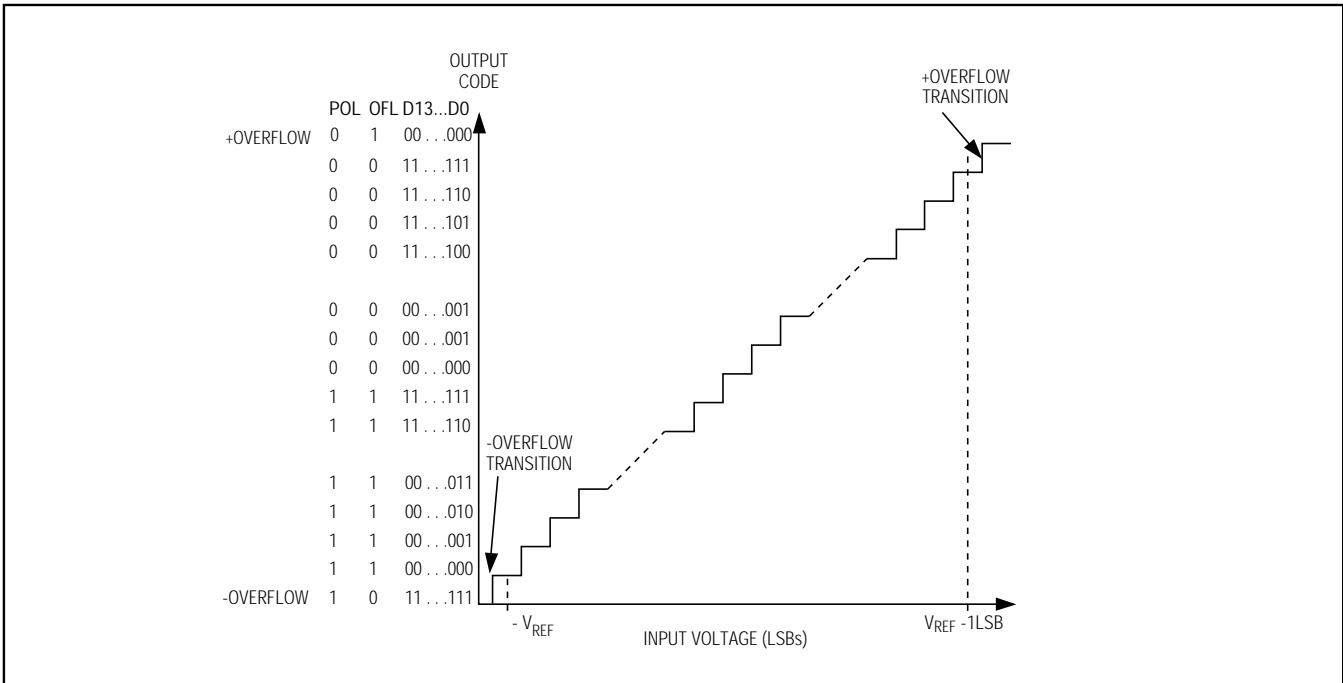
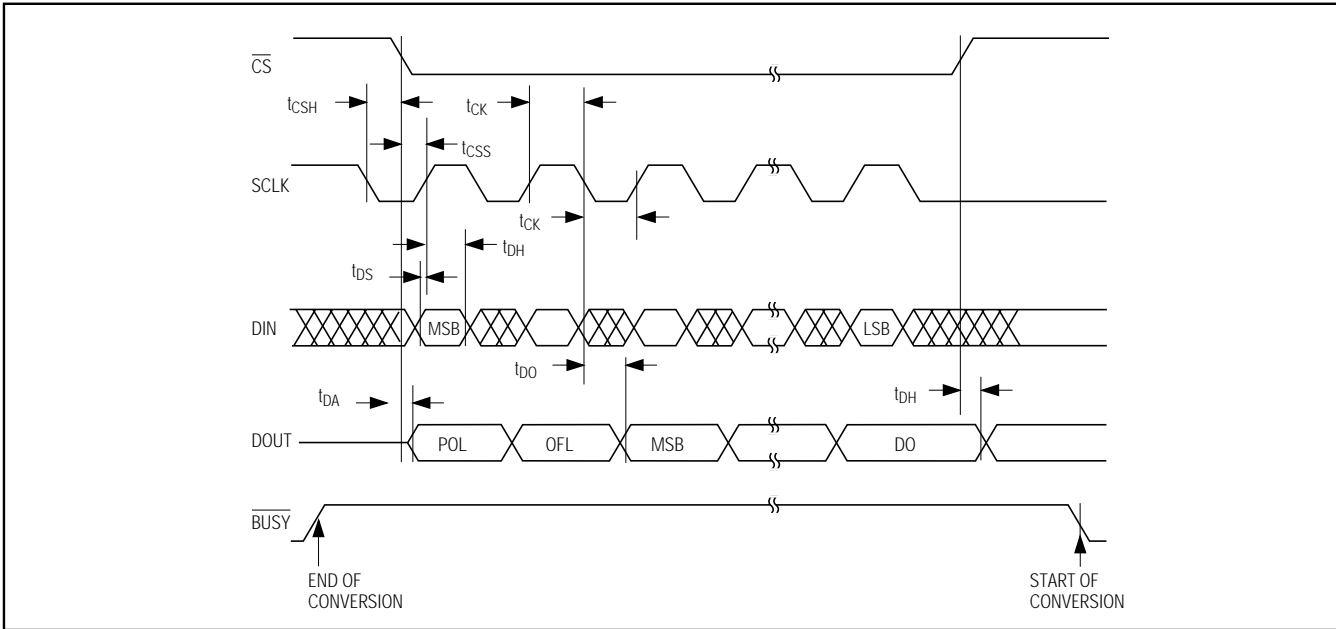

Figure 4. Differential Transfer Function
Figure 6. Detailed Serial-Interface Timing
The output data from the MAX110/MAX111 is arranged in twos-complement format (Figures 4, 5). The sign bit (POL) is shifted out first, followed by the overrange bit (OR), and the 14 data bits (MSB first) (see Figure 6). The MAX110 operates from $\pm 5V$ power supplies and converts low-frequency analog signals in the $\pm 3V$ range when using the maximum reference voltage of $V_{REF} = 3V$ ($V_{REF} = V_{REF+} - V_{REF-}$). Within the $\pm 3V$ input range, greater accuracy is obtained within $\pm 2.5V$ (see *Electrical Characteristics* for details). Note that a negative input voltage is defined as $V_{IN-} > V_{IN+}$. For the MAX110, the absolute voltage at any analog input pin must remain within the $(V_{SS} + 2.25V)$ to $(V_{DD} - 2.25V)$ range.
Data is transferred into and out of the serial I/O shift register by pulling \overline{CS} low and applying a serial clock at SCLK. This fully static shift register allows SCLK to range from DC to 2MHz. Output data from the ADC is clocked out on SCLK’s falling edge and should be read on SCLK’s rising edge. Input data to the ADC at DIN is clocked in on SCLK’s rising edge. A new conversion begins when \overline{CS} returns high, provided the MSB in the input control word ($\overline{NO-OP}$) is a 1 (see *Using the MAX110/MAX111 with Microwire, SPI, and QSPI Serial Interfaces*). Figure 6 shows the detailed serial-interface timing diagram.